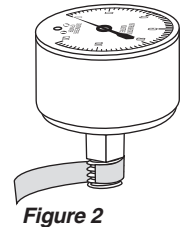

Figure 2
1. Prior to installation, **at least two layers of teflon tape MUST** be applied to threads. (Figure 2)